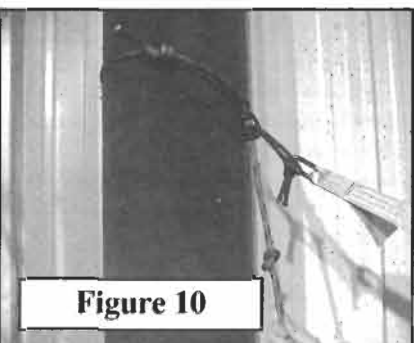

Figure 10
5. Tie an overhand knot in the safety rope approximately one foot under the prussic hitch as shown in **Figure 10**. This will help maintain your position on the safety rope in the event of a fall.